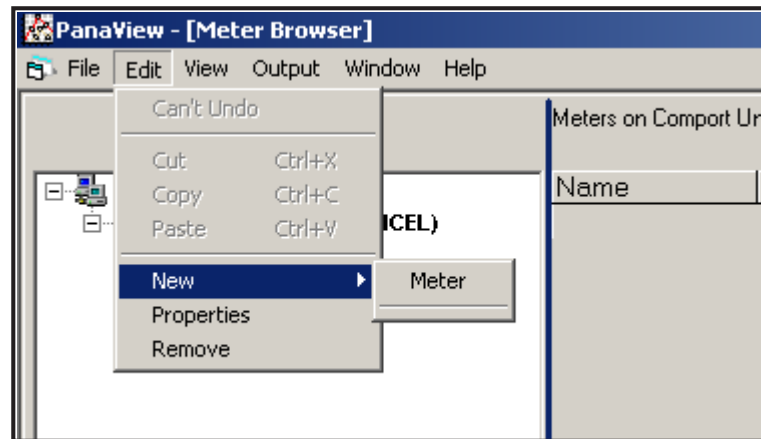

Figure 20: “*New*” Option in the “*Edit*” Menu
2. Click on the “*New*” option in the “*Edit*” menu (see Figure 20).